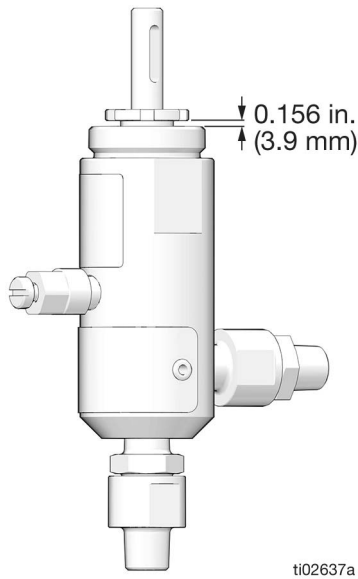

FIG. 10 Tightening the packing nut
4. Reinsert the packing nut (104), the packing (103), and the bearings (102) into the fluid cylinder (101). Tighten the packing nut (104) to distance, as shown in FIG. 10.